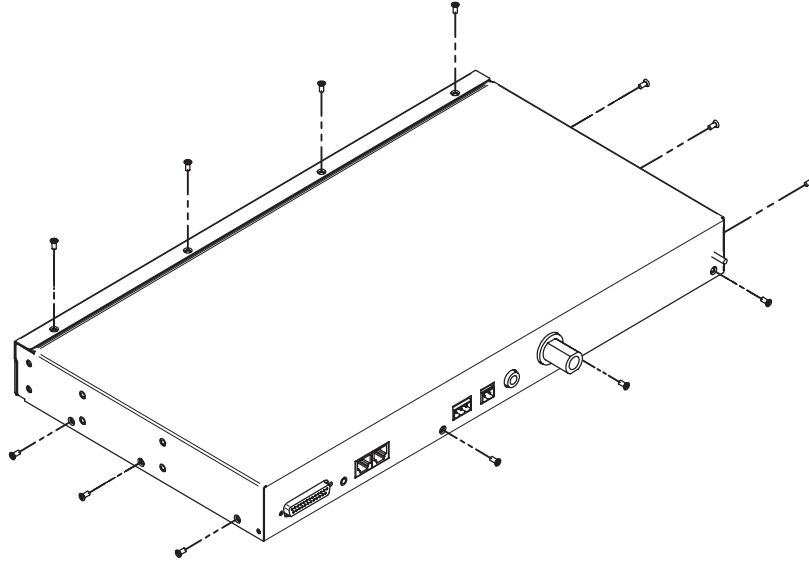
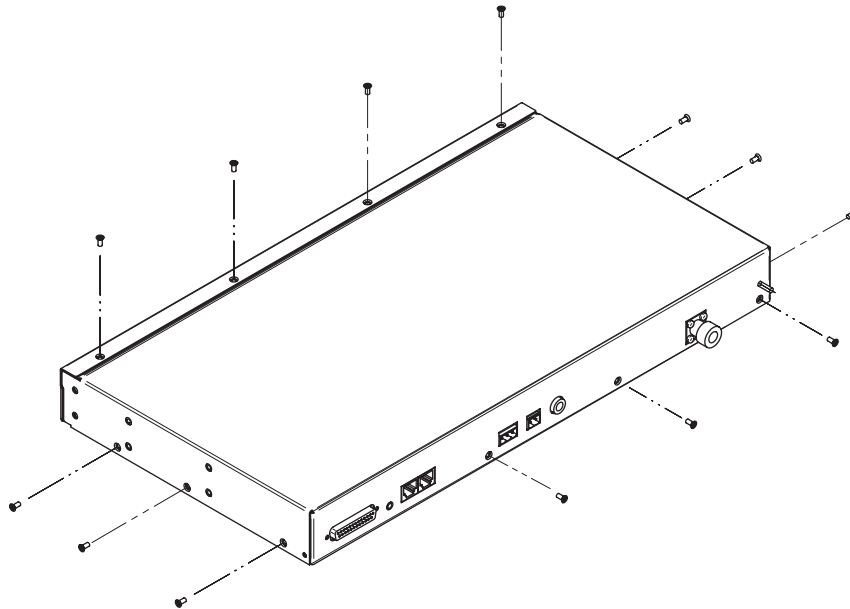

Figure 1. Removing the Cover Screws (TRACER 4102)
Figure 2. Removing the Cover Screws (TRACER 4202)
1. Remove the screws from the chassis cover using a Phillips-head screwdriver (see Figure 1 for TRACER 4102 and Figure 2 for TRACER 4202).